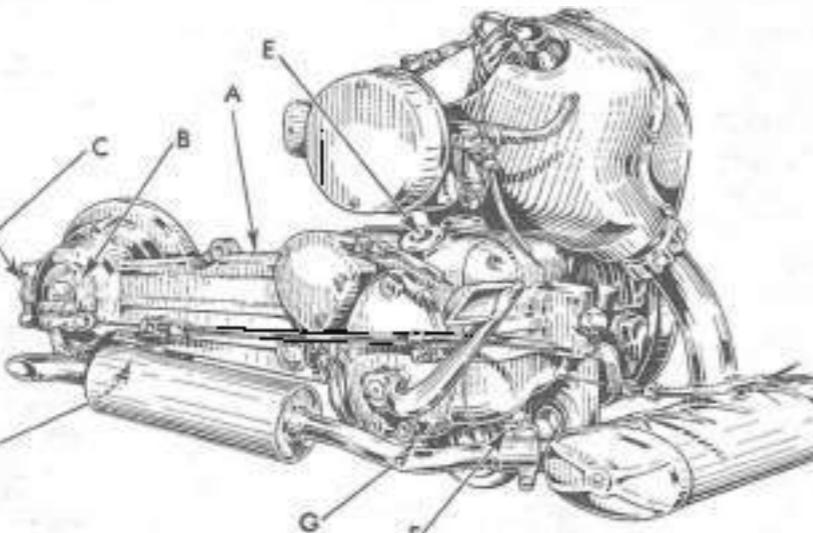

Fig. 10
From engine to gearbox by bevel gears; from gearbox to the rear bevel gears by torsion shaft especially efficient against sudden variations of the revolution rate. Bevel gears running in oil bath. The shaft is enclosed in the transmission case A (fig. 10), and pivoting on a robust pin (B) incorporated in the frame. Through its movement the swinging arm loads the suitably supported torsion bar made of high-tensile steel. The swings of the engine group are transmitted to the torsion bar by means of return levers (C), which are properly proportioned in order to reduce the tor-